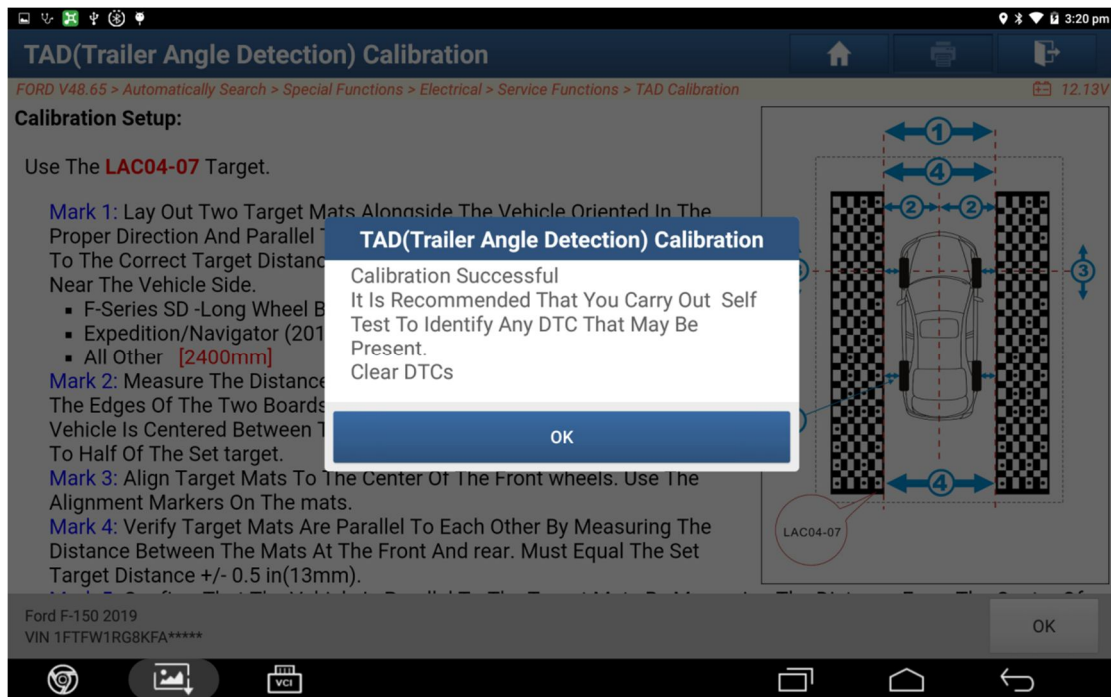

Figure 13
12. Prompt that the calibration is successful (Figure 13).